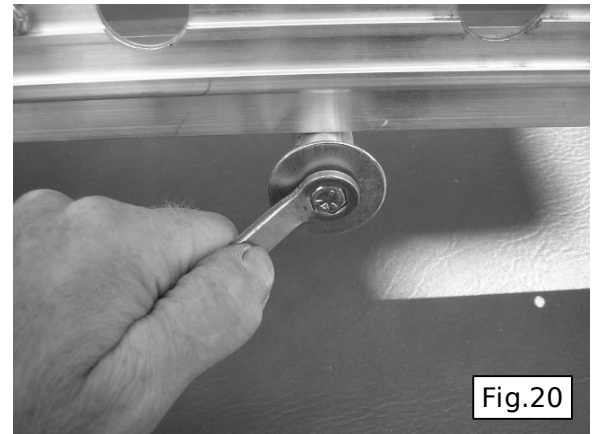

Fig.20
13. Fasten a washer to each end of the short crossmembers using a 3/4" bolt (Fig.20). This will prevent the shock cords from slipping off the end when they are used as tie-down points.